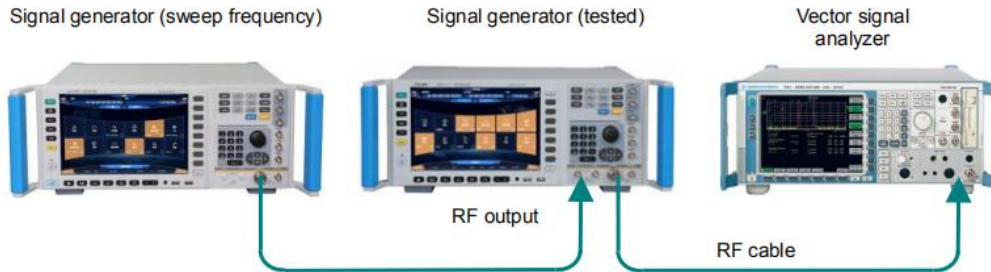

Fig.7.10 External FM Frequency Response Test
Step 2. Connect the device as shown in Fig.7.10.